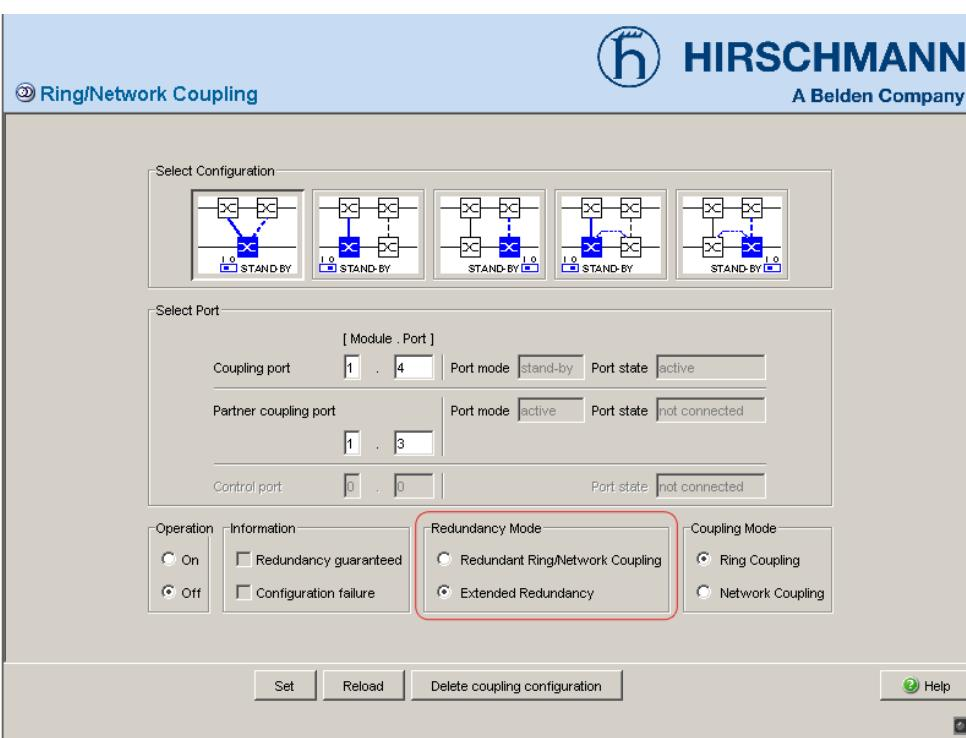

Figure 10: Selecting the redundancy mode
- In the “Redundancy Mode” frame, select (see fig. 10)